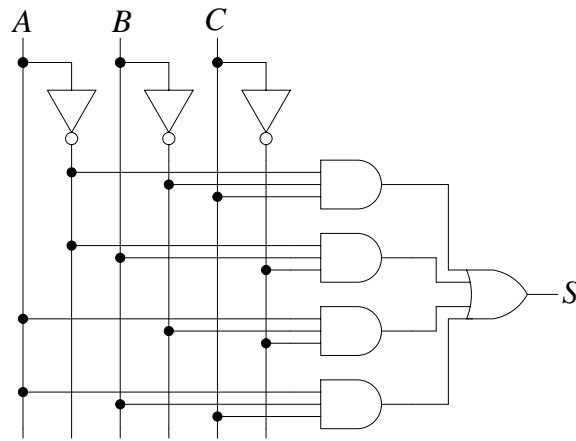

Figure 7: Combinational circuit for lab practice.
1. Determine the Boolean expression and the truth table of the output S of the combinational circuit of Figure 7.
2. Write down the structural Verilog code for describing the combinational circuit of Figure 7.
1. Perform the schematic simulation of the combinational circuit of Figure 7. Copy the schematic circuit and the simulation waveform in a Word file.
2. Perform the structural Verilog simulation of the combinational circuit of Figure 7. Copy the simulation waveform in the same Word file.